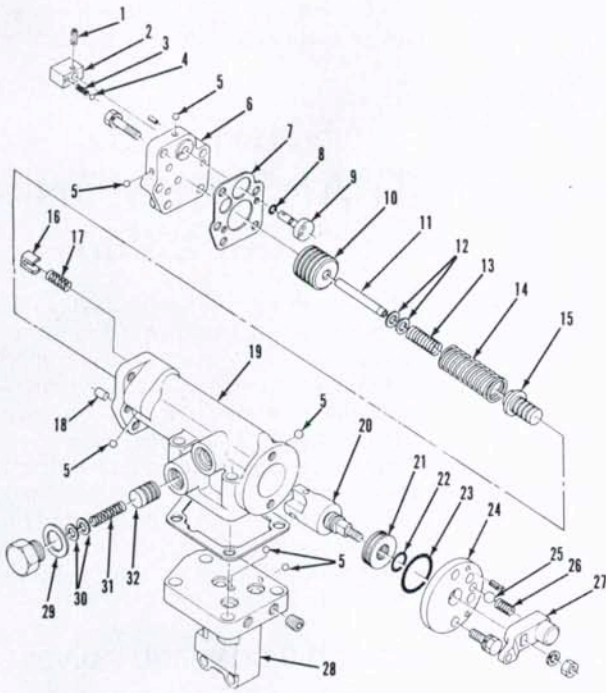

Fig. 121—Exploded view of shuttle control valve used on Model L355.
If pressure readings are not within specifications, change thickness of shims (12 or 30—Fig. 121) to obtain recommended relief pressure. Changing shim (30) thickness 1.0 mm (0.04 inch) will change lubricating oil pressure approximately 11 kPa (1.5 psi). Changing thickness of shim (12) 1.0 mm (0.04 inch) will change clutch relief pressure approximately 182 kPa (26.5 psi).
To disassemble shuttle valve, remove selector cover (24—Fig. 121) and selector valve (20) as a unit. Remove retaining nut and separate selector lever (27),